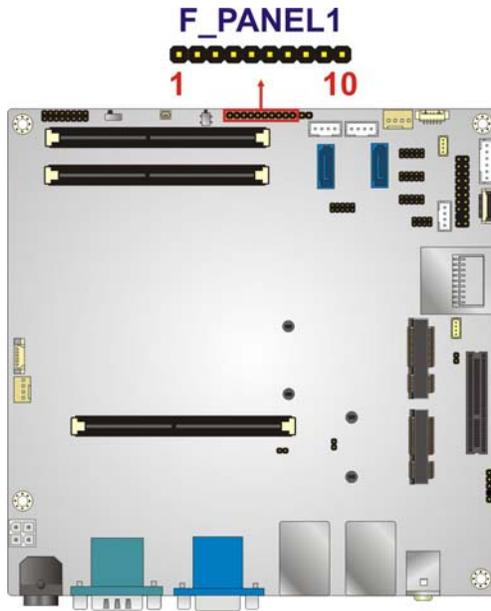

Figure 3-11: Front Panel Connector Location
- CN Location:** See Figure 3-11